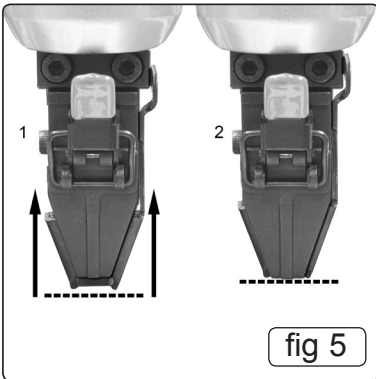

fig 5
- 4.2.4 Place the tip of the stapler gun onto the material to be stapled and press downwards to bring the staple outlet into contact with the surface. As the safety switch retracts the trigger will become free (fig 5).
- 5.6 On a weekly basis check the security of the hex bolts holding the driver guide plate in place (can be seen on fig 5) and tighten if necessary.